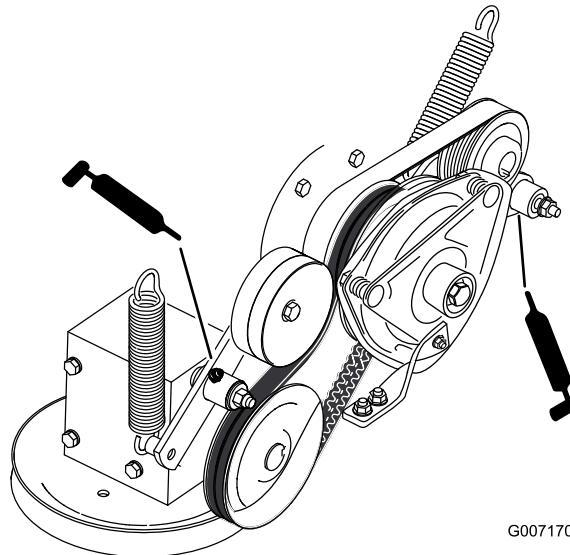

Figure 41
9. Grease the PTO drive belt idler arm \(Figure 41\).
10. Grease the pump belt idler arm \(Figure 41\).